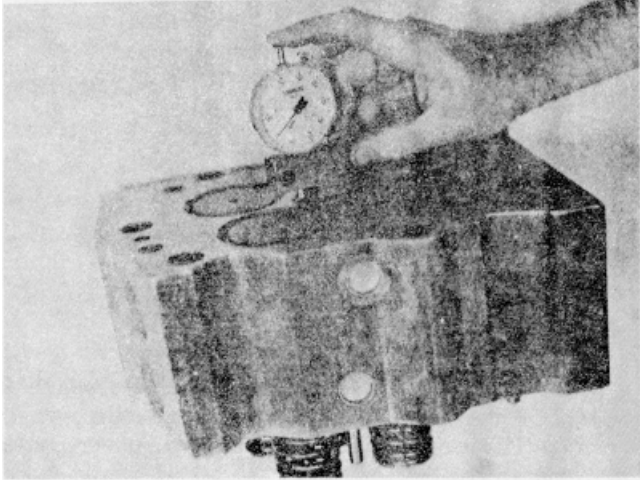

Figure 16D-7. Measure the Injector Tip Protrusion
2. Measure the tip protrusion with the ST-547 Dial Indicator, Figure 16D-7. The tip protrusion must be 0.090 to 0.110 inch (2.29 to 2.79 mm). Injector sealing rings are available std. in 0.010, 0.020 and 0.030 widths to correct protrusion.